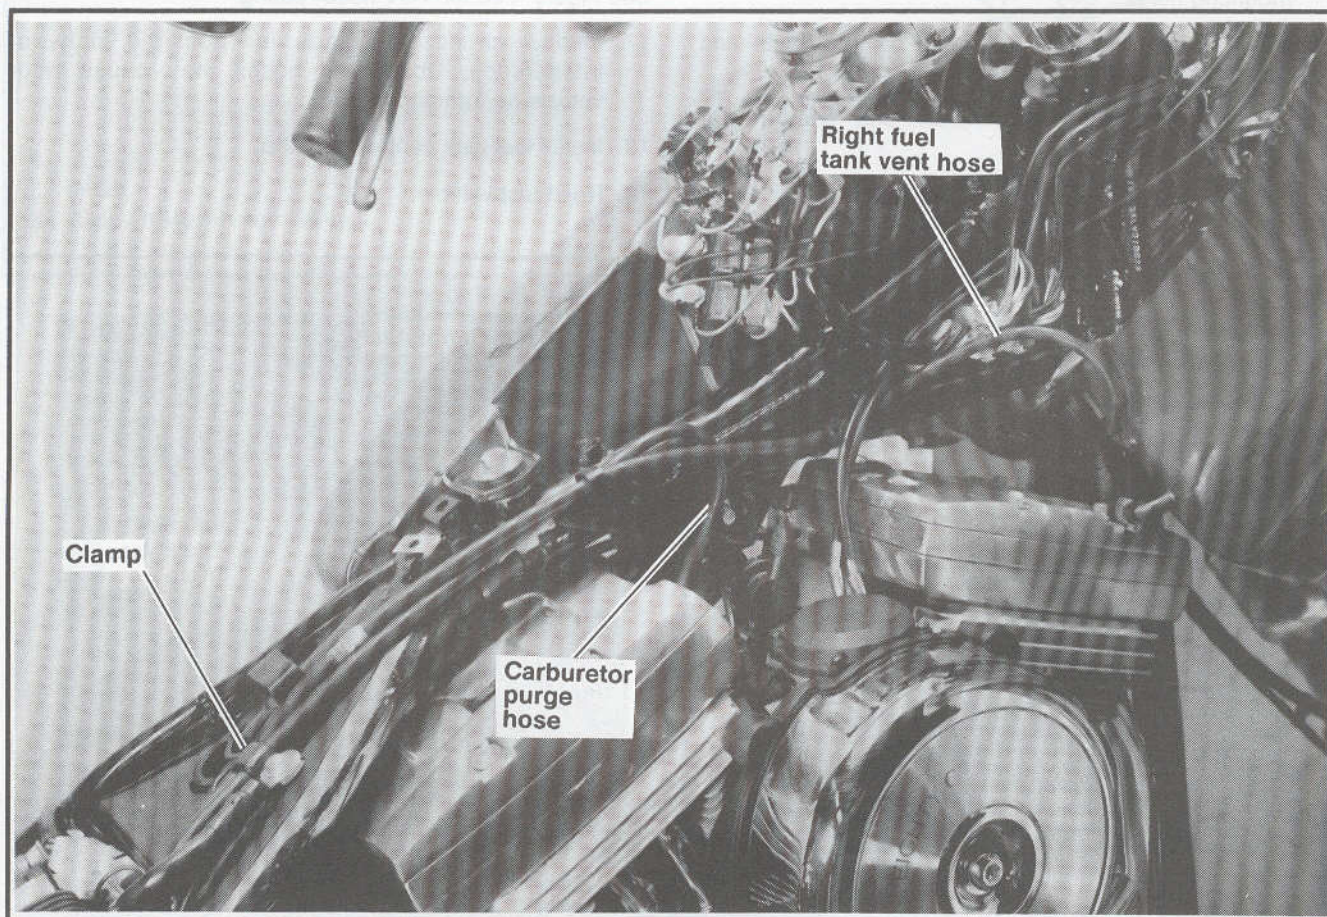

Figure 4-23. Hose Routing
2. See Figure 4-23. Attach the shorter hose to the carburetor purge fitting. The longer, white striped hose goes on right side fuel tank vent nipple.
REMOVAL (Figure 4-23)